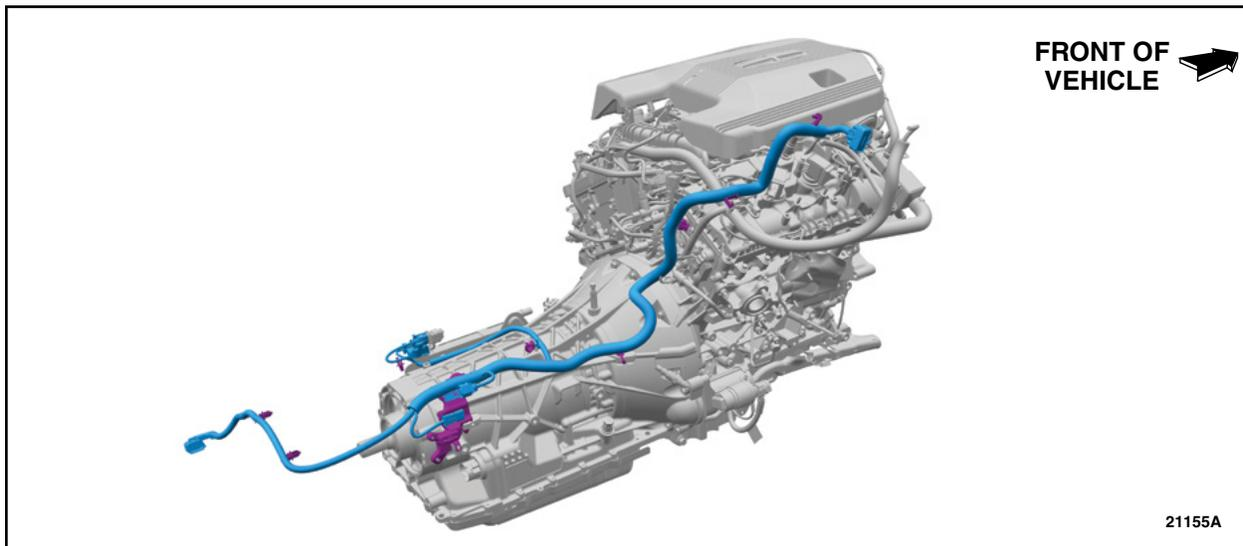

FIGURE 1
2. Replace the Transfer Case Wiring Harness. See Figure 1.